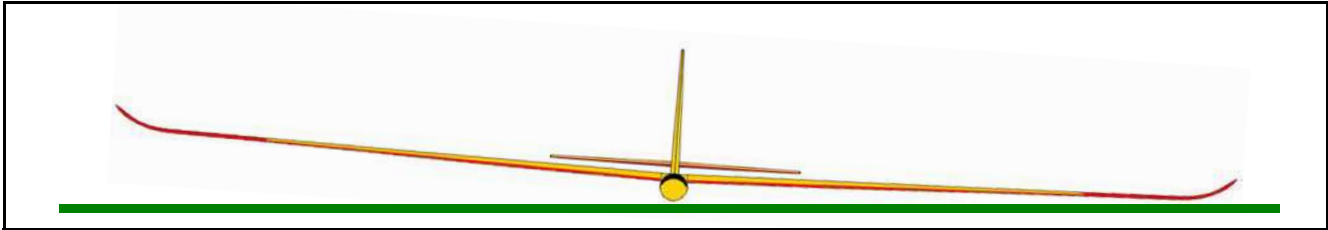

Fig.137: Checking for lateral balance.
- gently leave the model alone (see figure 137);